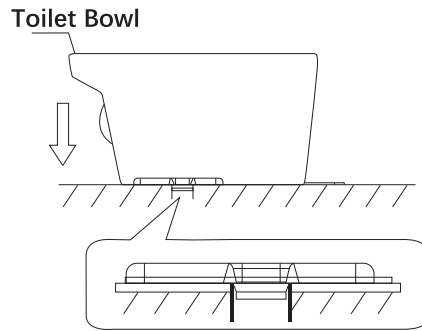

Figure 2
2. Carefully install bowl unit on socket. (see figure 2)